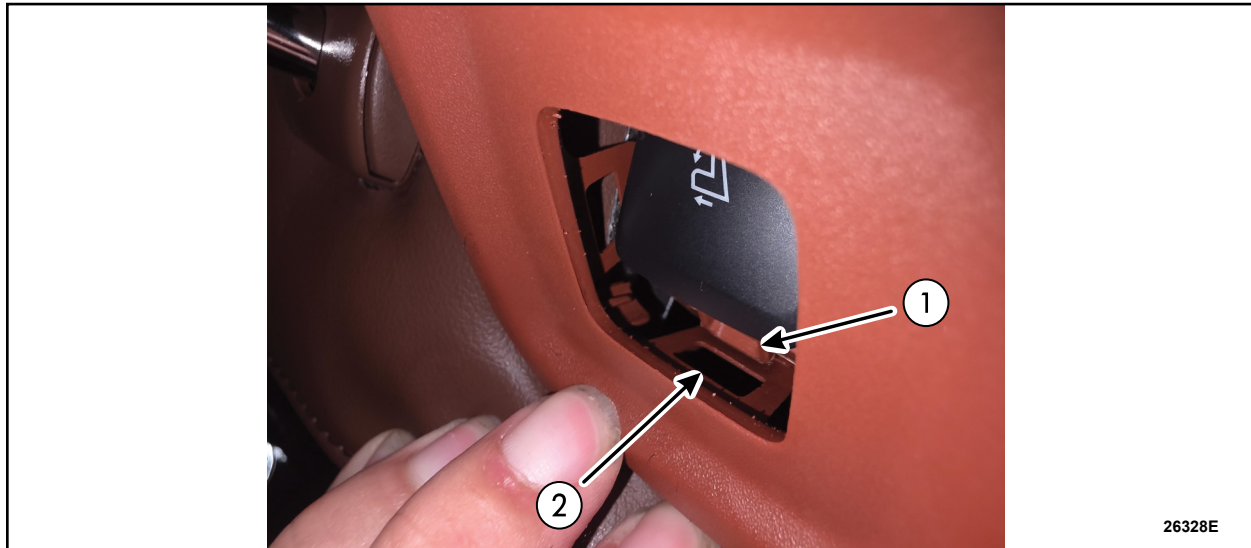

FIGURE 7
7. Begin installing the switch bezel by aligning the tab on the switch (1) with the indent on the bezel (2). See Figure 7.